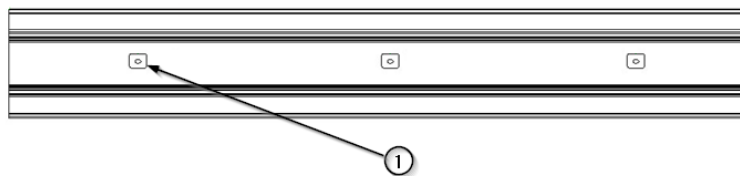

Fig.6 ICARUS equipment anchor points
- Locate the equipment anchor points (1) indicated on the accompanying installation drawing (see Fig. 6).
- Fix the wall brackets (3) on which the equipment is to be suspended by matching the screw housing that will fix the equipment (2) with the positions indicated in figure 6 for the anchorage points (1) as shown in figure 7.
- Locate the equipment anchor points ① indicated on the accompanying installation drawing (see Fig. 6).
- Fix the wall brackets ③ on which the equipment is to be suspended by matching the screw housing that will fix the equipment ② with the positions indicated in figure 6 for the anchor points ① as shown in figure 7.